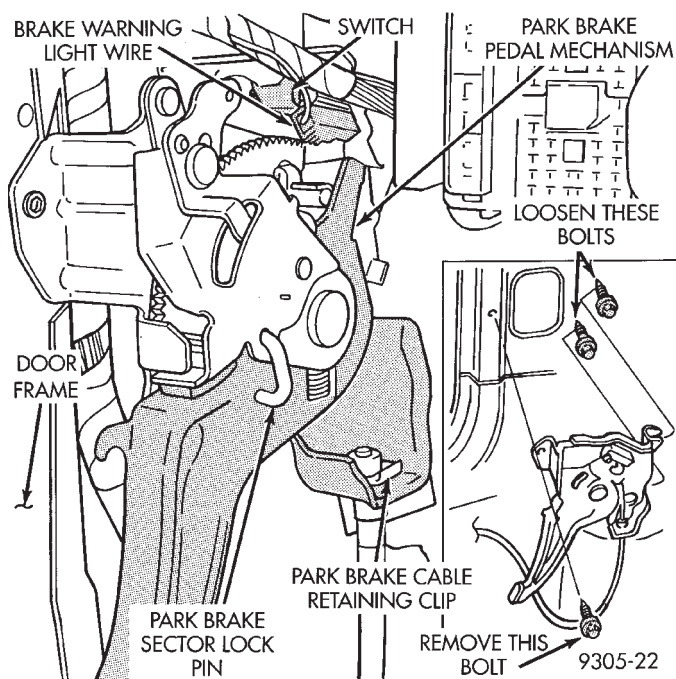

Fig. 22 Park Brake Pedal Mechanism
(4) Install park brake pedal mechanism onto the 2 loosened mounting bolt on cowl panel (Fig. 22). Install the park brake pedal assembly retaining bolt into door frame (Fig. 22). Torque all 3 park brake assembly mounting bolts to 27 N•m (19 ft. lbs.).
(5) Connect the brake warning light wire from vehicles wiring harness, onto switch located on park brake pedal mechanism (Fig. 22).